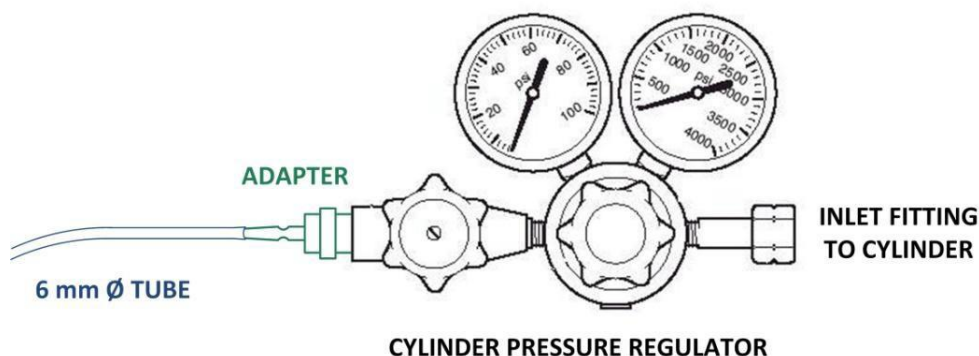

Figure 3-3
- 1. Gas cylinders** - Close the cylinder's main valve. Take a 6 mm external diameter tube and proceed connecting it to the cylinder pressure regulator. For a safe connection, a specific rubber holder adapter is usually required (Figure 3-3). This procedure must be repeated for each gas cylinder in use.